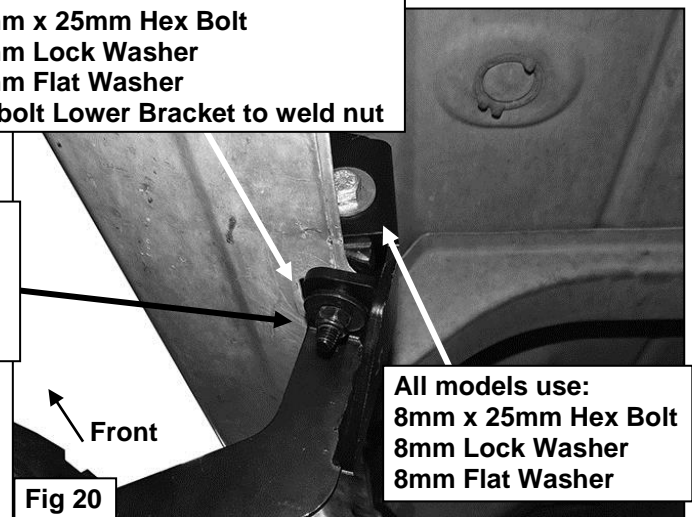

Fig 20
10. Line up the side tab on the Lower Bracket with the threaded hole in the side of the Upper Bracket. Attach the Lower Bracket to the Upper Bracket with (1) 8mm x 25mm Hex Bolt, (1) 8mm Lock Washer and (1) 8mm Flat Washer, (**Figure 20**). Leave loose at this time.
11. Repeat **Steps 1—3** for the (2) remaining passenger side Bracket installations. **NOTE:** Cradles on Brackets installed on passenger side will face forward.